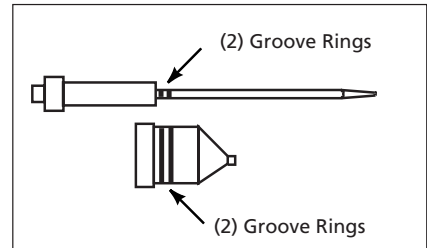

Figure 4 - Thick Material Needle Kit
4. The thick material needle and nozzle have 2 groove rings as shown in Figure 4 below.